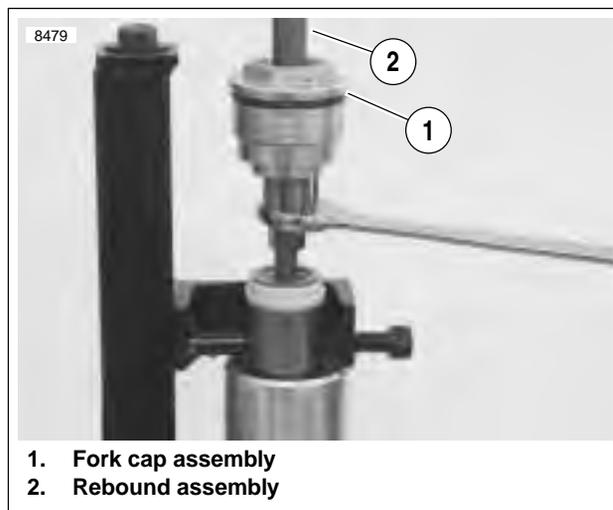

Figure 2-71. Rebound Assembly and Fork Cap Assembly
- See Figure 2-71. Tighten the damper locknut (10) to 22-30 ft-lbs (30-40 Nm).